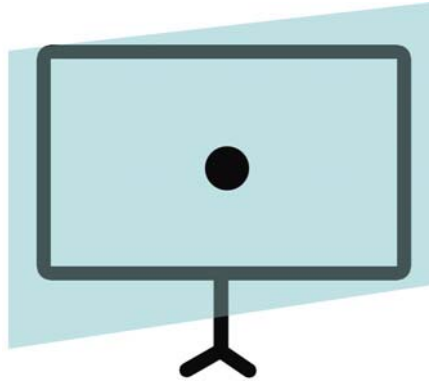

Figure 3. Projection Centered on Screen
2. Position the projector so the center of the test pattern is over the center of the screen (as shown in Figure 3).